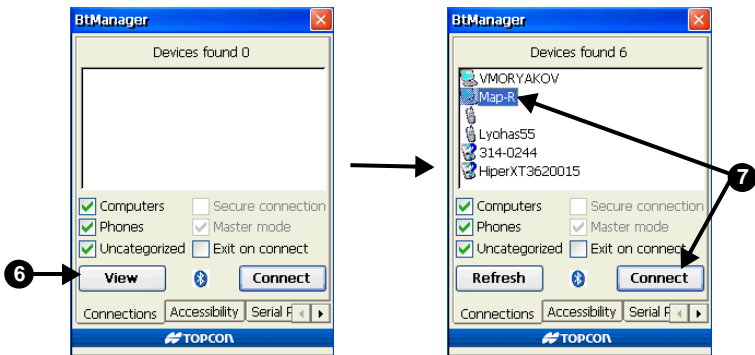

Figure 3-6. View Devices and Connect
5. Tap the *Connections* tab and tap **View** to detect Bluetooth devices in range (Figure 3-6 on page 3-5).
- Once the Devices list has been populated, select the device to connect to and tap **Connect** (Figure 3-6).